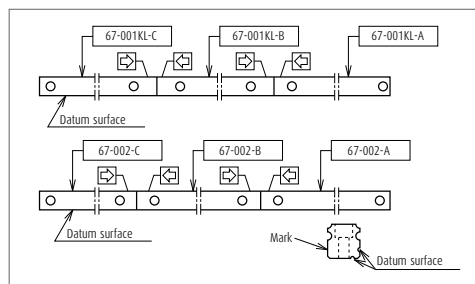

Fig. 25
- › The rails with butting specification are marked with alphabet (A, B, C ...) and an arrow on the opposite side of the mounting datum surface. Use the alphabets and arrows for assembly order and direction of the rail (Fig. 25). The random-matching rails for butting specification are only marked with the arrows.